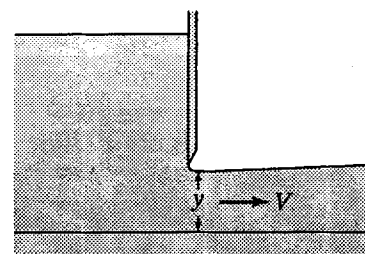

Figure P10.28
10.28 Water is released from a sluice gate in a rectangular channel 6 ft wide such that the depth is 3 ft and the velocity is 18 fps (Fig. P10.28). Find (a) the critical depth for this specific energy; (b) the critical depth for this rate of discharge; (c) the type of flow and the alternate depth by either direct solution or the discharge curve.